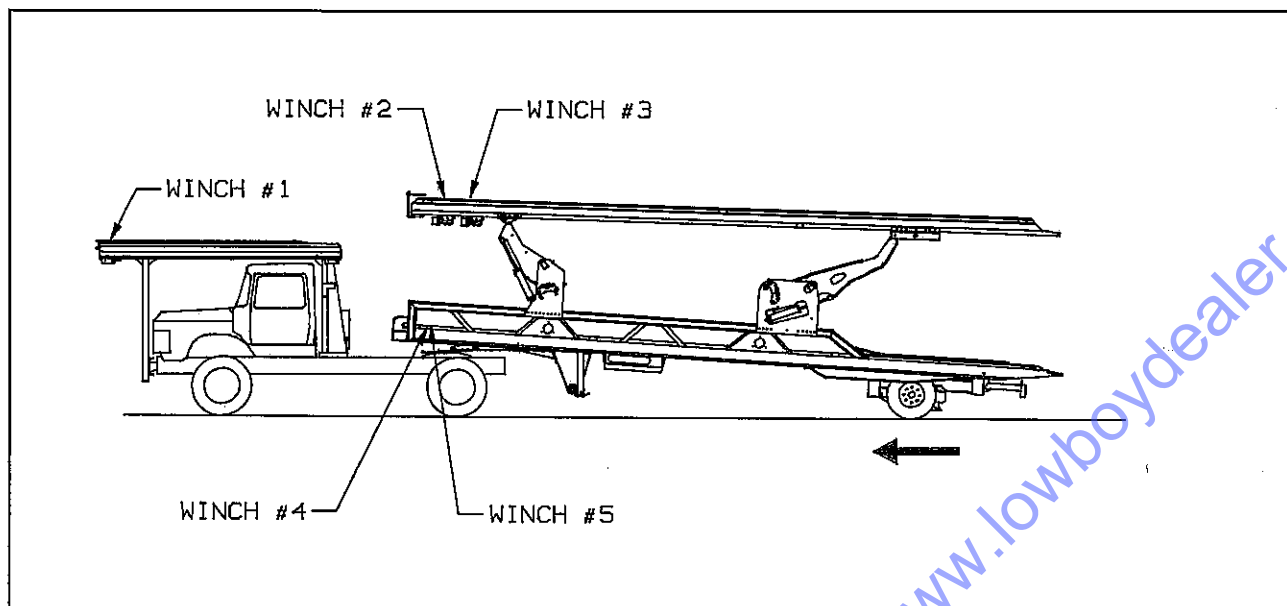
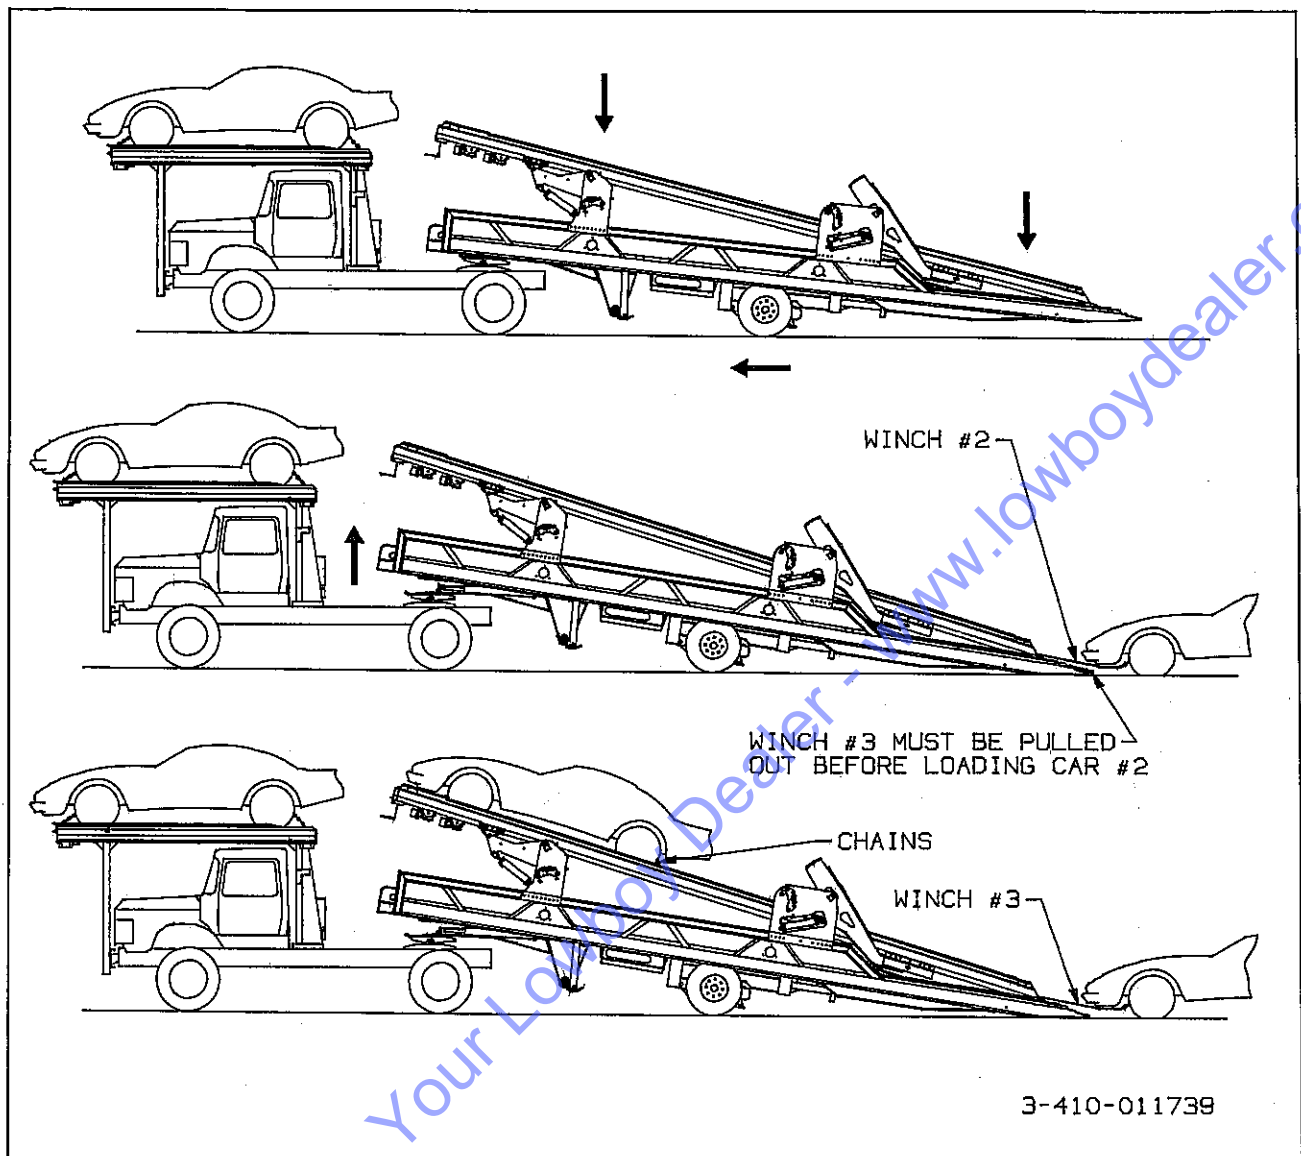

Figure 3-6 Preparation for Loading
Figure 3-9 Loading the Upper Deck
- a. Park the tractor/trailer in a straight line on a level even surface. Set the tractor brakes and release the semitrailer brakes. (See Figure 3-6.)
g. Prepare the first vehicle to be winched onto the trailer. Connect winch #2 (see Figure 3-6) to the first vehicle and pull it to the front of the upper deck. Secure the vehicle so it will not roll forward or backward.
- b. Unlock and lower the front arm as far down as it will go. (See Figure 3-9.)
- e. Free-wheel the winch cable from winch #3 (see Figure 3-6) out until it is at the rear of the upper deck so it is accessible after loading the next vehicle.
- f. Connect winch #2 (see Figure 3-6) to the next vehicle and pull it to the front of the upper deck. Make sure there is adequate clearance between the over-cab vehicle and the vehicle on the trailer to allow for swing clearance. 2-1/2 feet clearance is usually required. Secure vehicle with chains (see paragraph 3-11.7).
g. Connect winch #3 (see Figure 3-6) to the next vehicle and pull it to the rear position on the upper deck. (See Figure 3-9.) Secure with chains (see paragraph 3-11.7).
c. Free-wheel the winch cable from winch #5 (see Figure 3-6) out until it is at the rear of the lower deck so it is accessible after loading the next vehicle.
d. Connect winch #4 (see Figure 3-6) to the next vehicle and pull it to the front of the lower deck as far as possible without interfering with the upper deck. Secure with chains (see paragraph 3-11.7).
e. Connect winch #5 (see Figure 3-6) to the next vehicle and pull it to the rear position on the lower deck. (See Figure 3-11.) Secure with chains (see paragraph 3-11.7).
g. Reel out winch #1 (see Figure 3-6) to allow the vehicle to move off of the Over-the-cab deck and onto the trailer upper deck.
h. After the vehicle is completely on the trailer deck, secure the vehicle so winch #1 (see Figure 3-6) can be disconnected and winch #2 (see Figure 3-6) can be connected to the vehicle.